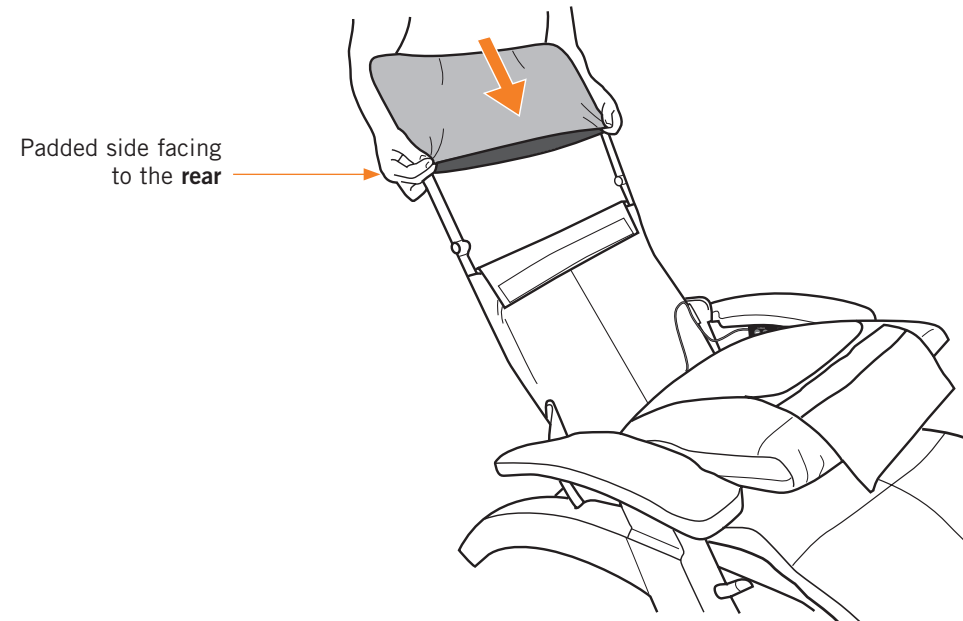

Fig.27
1. Slide the head sock over the headrest frame, with the padded side facing the to the **rear** (Fig.27).